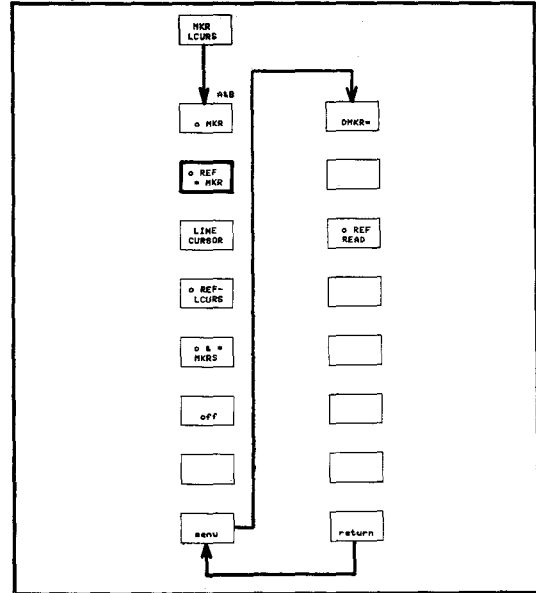

Figure 3-87. o REF - * MKR menu
1. Press the **MKR/L CURS** key. The **MKR/L CURS** menu will be displayed in Menu Area as shown in Figure 3-87.
3. Press the 'menu' softkey. The o REF- * MKR menu will be displayed as shown in Figure 3-87.